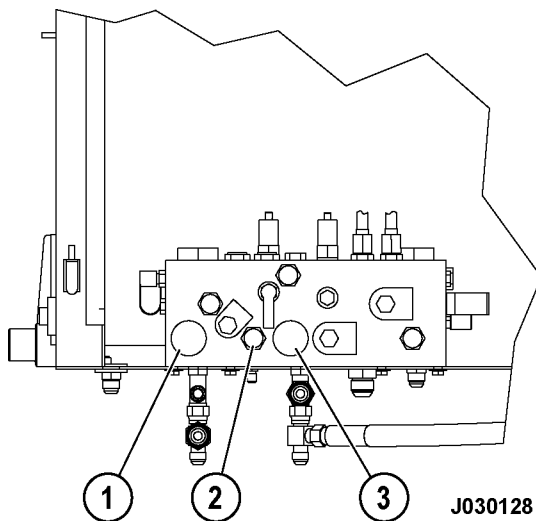

FIGURE 7-2. BRAKE MANIFOLD
2. Place the directional control lever in PARK and turn the rest switch ON. Turn the key switch OFF to shut down the engine and allow 90 seconds for the steering system accumulators to bleed down. Open bleed down valves (1) and (3, Figure 7-2) to bleed down the brake accumulators.